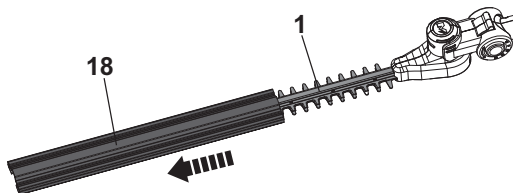

Fig. 2
1. Remove the blade cover (14) from the cutting device (blade) (1) before operation (Fig. 2).
2. Keep the blade cover (14) safely.